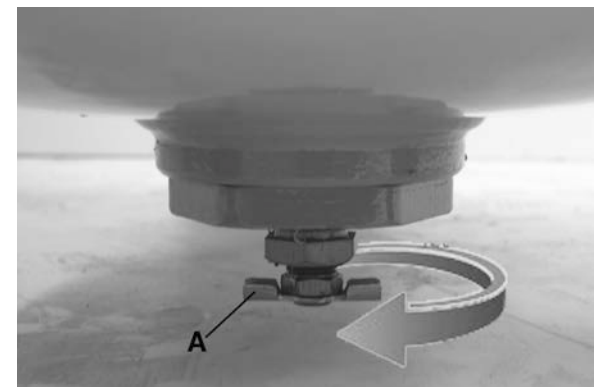

FIGURE 5
- 4) Open the drain valve (A) Fig.5, turn it clockwise as shown, this will prevent air pressure build-up in the tank.